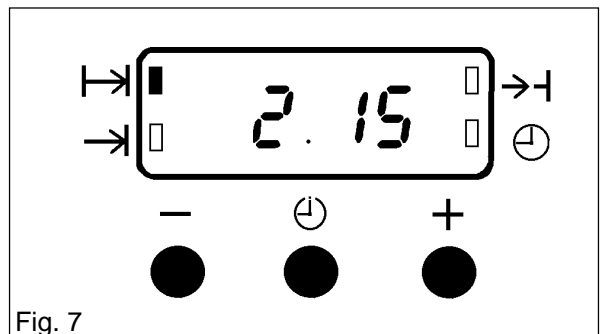

Fig. 7
- iii) To set the length of cooking time, press the Selector Control button (⌚) until the 'Cook Time' indicator is illuminated (|→). Press the increase control (+) until the required length of cooking time is displayed, e.g. 2 hrs 15 mins as Fig. 7. If necessary depress the decrease control (-) until the correct time interval is achieved. The maximum cooking time is 10 hours.